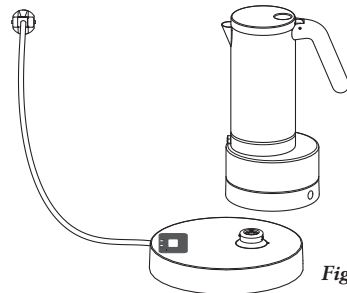

Fig. 7
- Place the espresso maker on the power supply base (fig. 7).